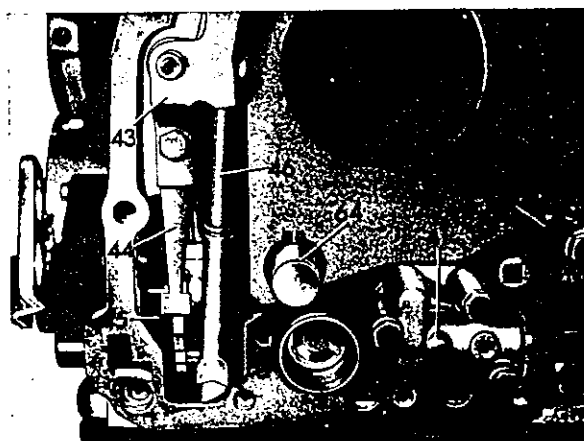

Fig. 19
25 Loosen the three bolts. Then remove modulating pressure valve housing (41) and gasket of rear transmission case (42) Fig. 19